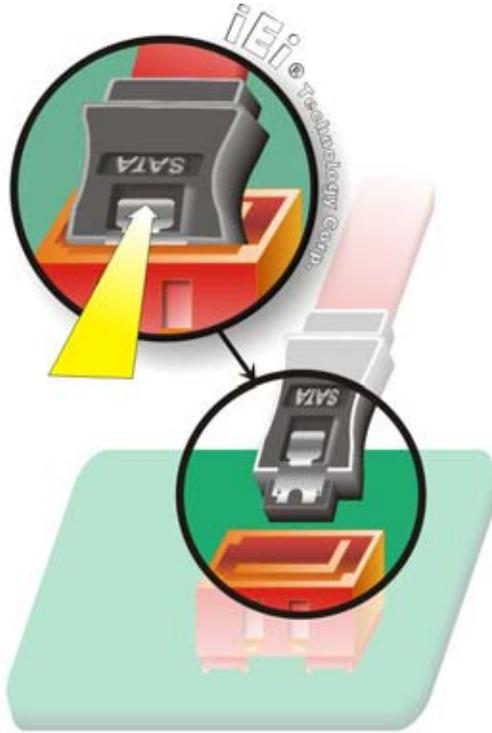

Figure 4-11: SATA Drive Cable Connection
Step 7: **Insert the cable connector.** Press the clip on the connector at the end of the SATA cable and insert the cable connector into the onboard SATA drive connector. See Figure 4-11.